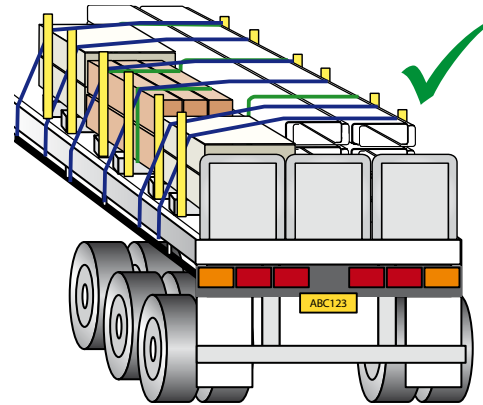

Figure 5.1: Specialised trailer with headboard (not shown), side pins and tail gate effectively containing load (in conjunction with load restraint).
- Designed headboards, tail boards, side pins and/or side gates (see Figure 5.1).